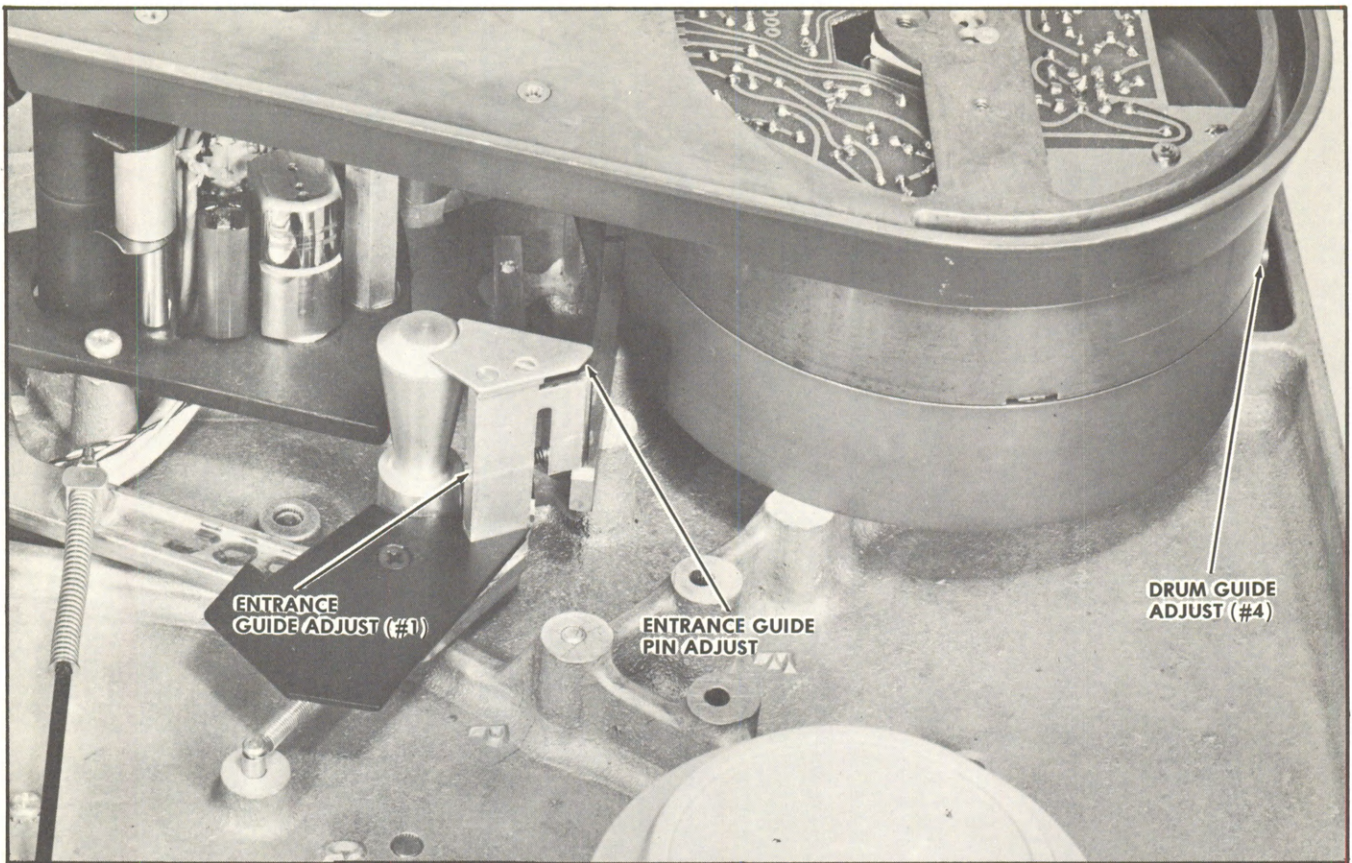
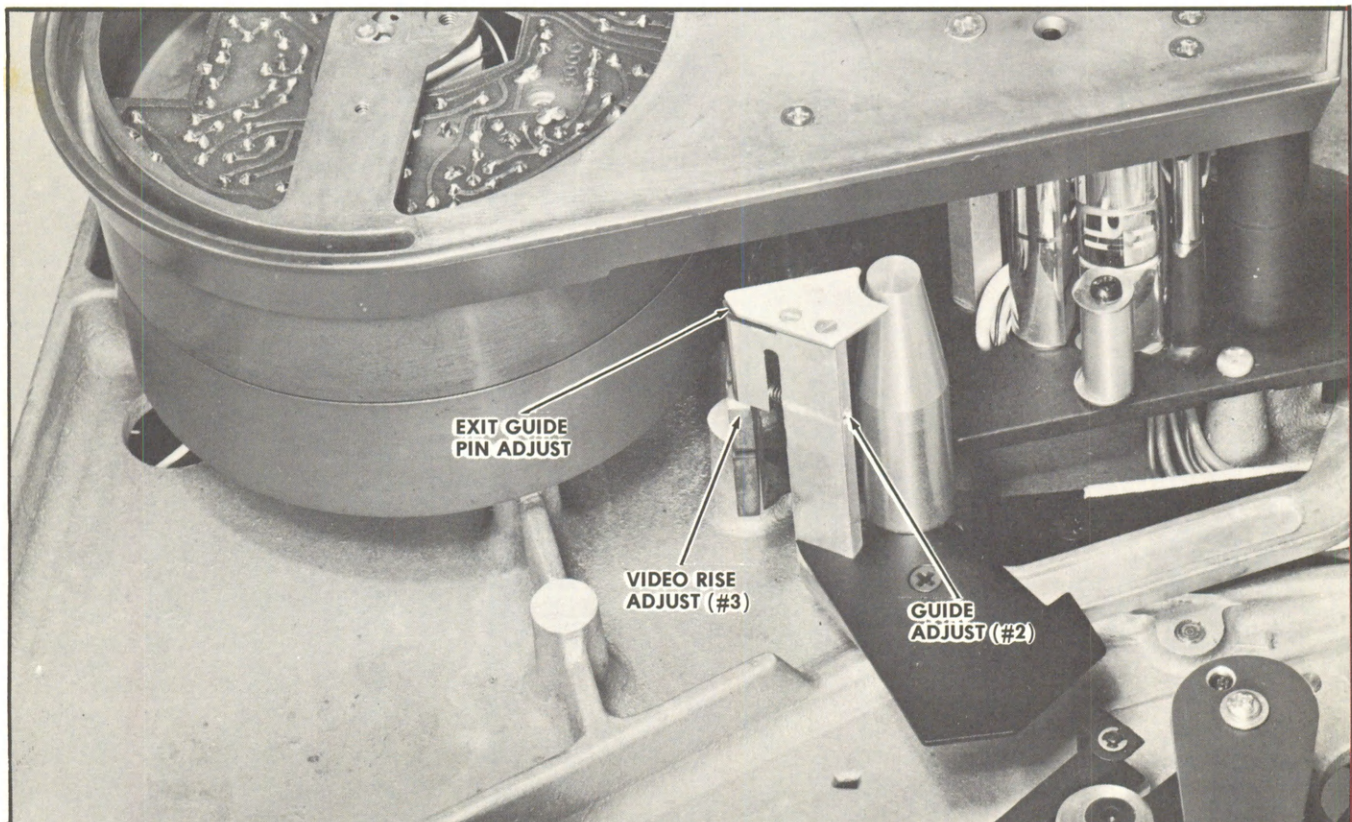

Figure 6-5. Exit and Video Rise Guide Adjustments
Figure 6-6. Entrance and Drum Guide Adjustments
Perform guide adjustments 1 and 2. Figures 6-5 and 6-6 to eliminate tracking crossovers from the RF envelope as shown in Figure 6-11a and b. If the amplitude fluctuation are most severe at the leading edge, as shown in Figure 6-11c, start adjustment with screw #2, Figure 6-6. To determine which way to turn the adjustment screw, apply an outward force on the top of the guide. If this improves the RF envelope (reduces the severity of its amplitude fluctuations), the adjustment screw should be tightened (rotated clockwise). If applying an outward force on the top of the tape guide increases the severity of amplitude fluctuations, the adjustment screw should be loosened.
2. Obtain RF envelope with no more than one tracking crossover; and optimize the video rise adjustment. Adjust the tracking control to peak the trailing edge of the RF envelope. Readjust the video rise (adjustment 3 in Figure 6-6) to peak the leading edge of the envelope. If adjustment is correct, the leading and trailing edges of the RF envelope will rise and fall together, reaching minimum amplitudes simultaneously as the tracking control is varied. If not, adjust the trailing edge of the envelope for a minimum amplitude with the tracking control, then, readjust the video rise until the leading edge is at a corresponding amplitude.
3. The dip in the middle of the envelope results when the tape tracking is low at the rear of the drum. This condition is necessary so the tape will be biased down on the rear drum guide (adjustment 4 in Figure 6-5) when the latter is brought up to the optimum position. Peak the leading and trailing edges of the RF envelope with the tracking control. With adjustments 1 and 2, obtain a symmetrical dip in the envelope.